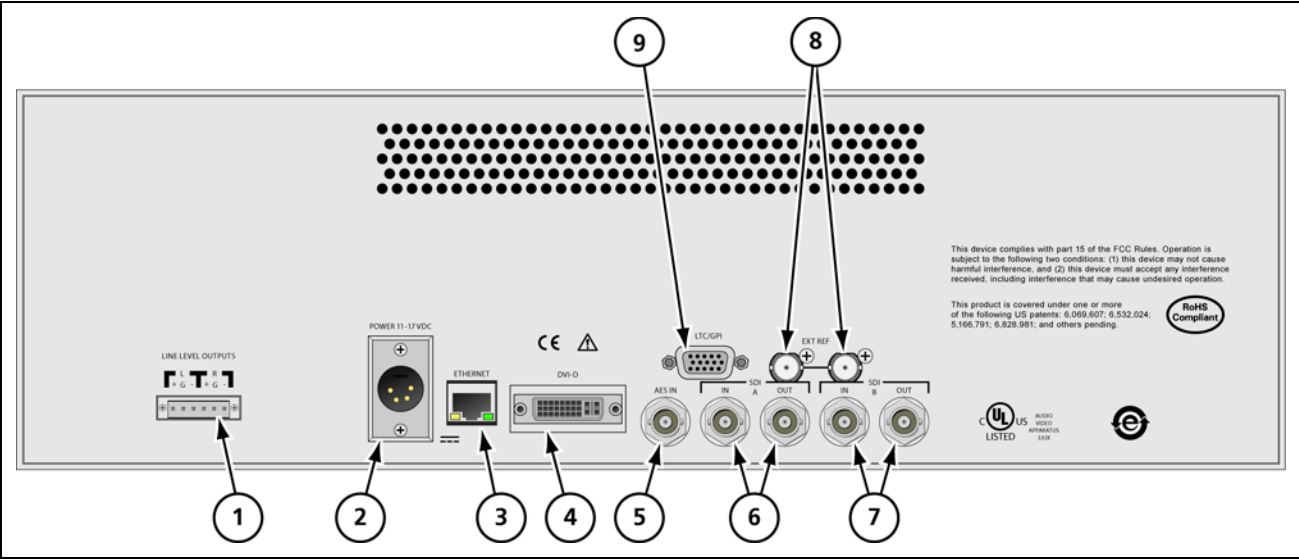

Figure 2-1 CVM-306 Back Panel Connectors
- 5 Connect all inputs and outputs to the appropriate connectors on the back panel (see Figure 2-1 and Table 2-1 for connector information).
The back panel connectors are illustrated in Figure 2-1, and the function of each connector is described in Table 2-1.